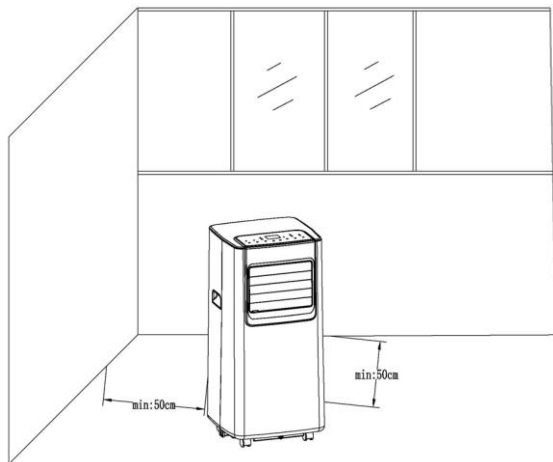

Fig. 1
- 1) Ensure at least 50 cm of free space on the filtering side of the unit (fig. 1)